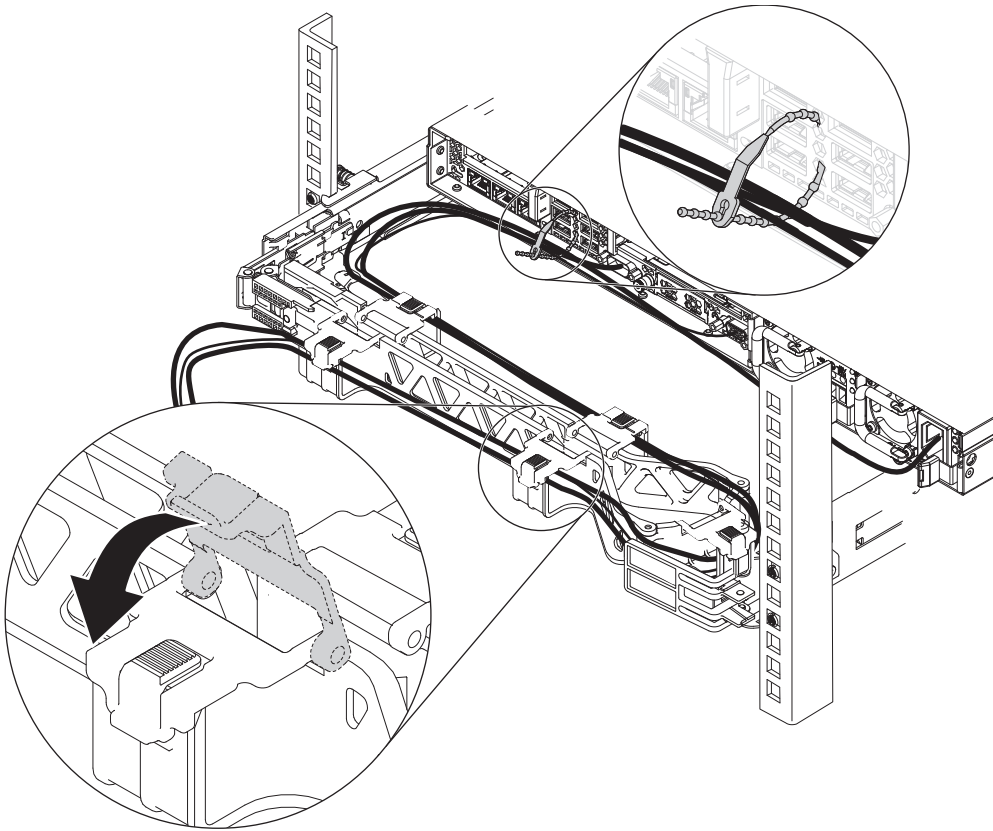

Figure 11. Disconnecting the cables and ties
4. Disconnect the routed cables, as shown in Figure 11 on page 26.